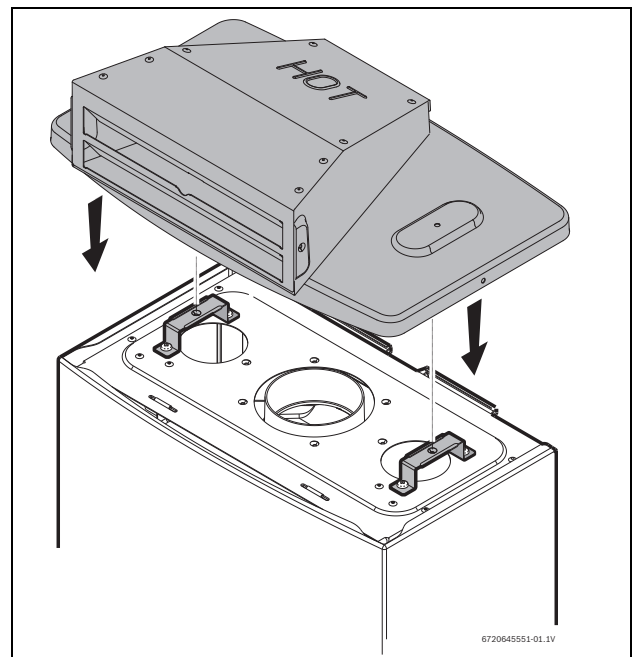

Fig. 14
- Position the outdoor vent cap on the top of the appliance, as shown in Fig. 14.